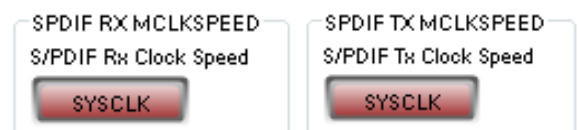

Figure 41. Setting the Maximum Sample Rate of the S/PDIF Receiver and Transmitter
- e. To enable the S/PDIF receiver to operate at a sample rate up to 192 kHz, click **SYSCLOCK** in the **SPDIF RX MCLKSPEED** box. When this button is clicked, the text changes to **SYSCLOCK** and the button color changes from green to red in the **SPDIF TX MCLKSPEED** box. To enable the S/PDIF transmitter to operate at a sample rate up to 192 kHz, click **SYSCLOCK** in the **SPDIF RX MCLKSPEED** box. When this button is clicked, the text changes to **SYSCLOCK** and the button color changes from green to red in the **SPDIF TX MCLKSPEED** box (see Figure 41).